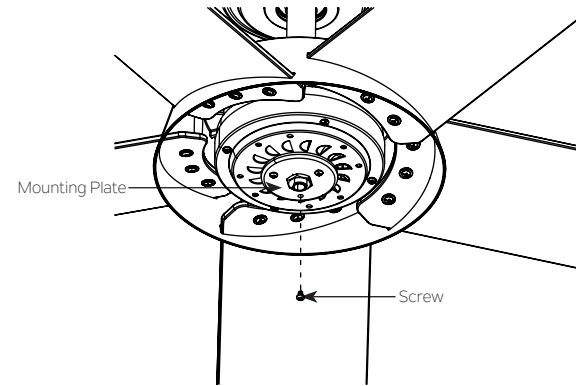

Fig. 19
Step 1. Remove one of three screws which preinstalled on mounting plate and keep for later use, loosen the other two (do not remove). (Fig. 19)